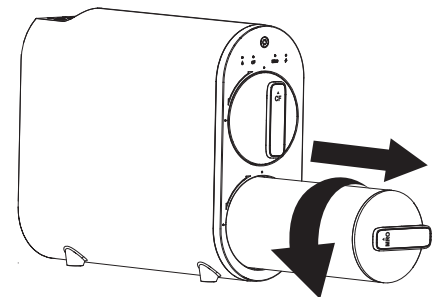

Figure 1
2. Twist off the filter counterclockwise (Figure 1);